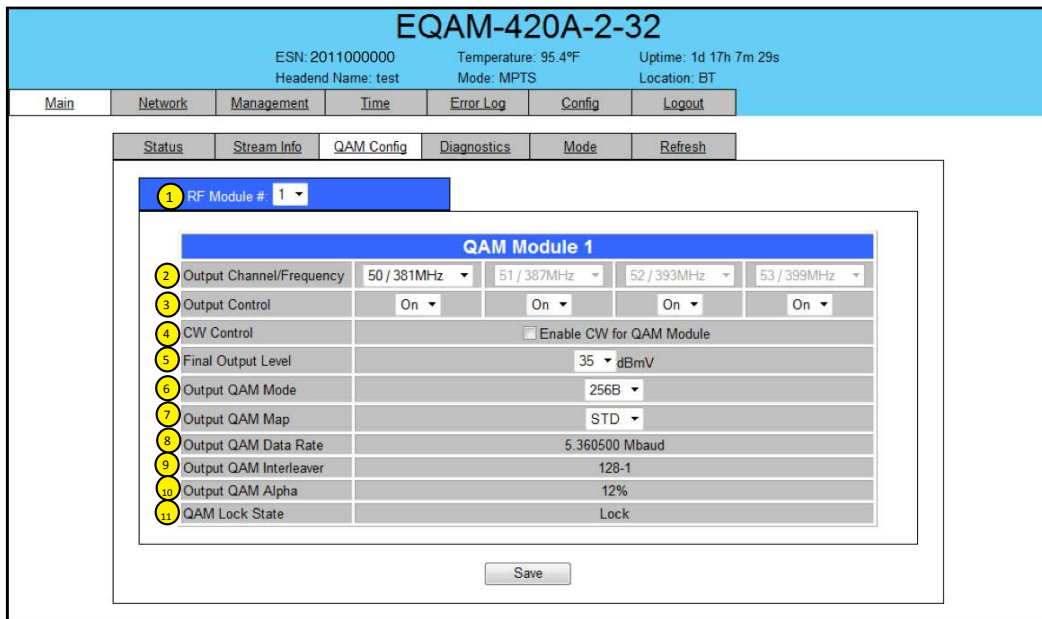

Figure 6.4.1 - "Main > QAM Config" Screen when operating in MPTS Mode
The "Main > QAM Config" screen (Figure 6.4.1 & 6.4.2) is a "read and write" screen where the following parameters are displayed or can be configured:
- 2 **Output Channel/Frequency:** must assign an RF channel number to the first RF QAM output of the Quad-QAM module (i.e. RF channel 50, as shown in Figure 6.4.1). The remaining three RF QAM channels will be automatically assigned to the next adjacent channels (i.e. RF channels 51, 52 and 53). The range is NTSC channels 2 to 155.